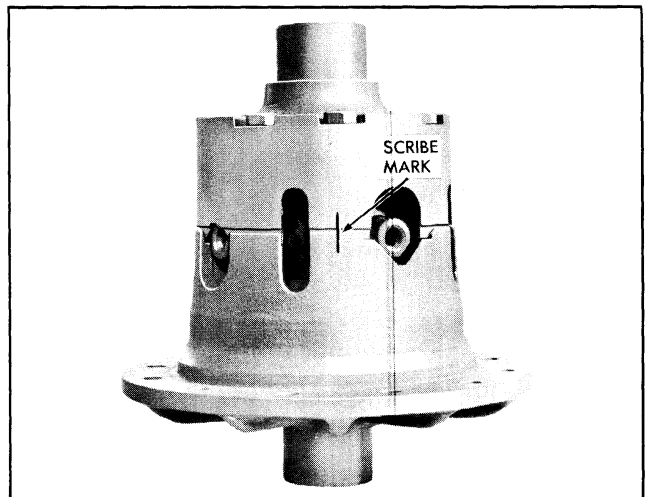

Fig. 4-63 Alignment Marks on Differential Case Halves
9. Scribe mark differential case halves (Fig. 4-63) to aid in alignment of case when assembling.